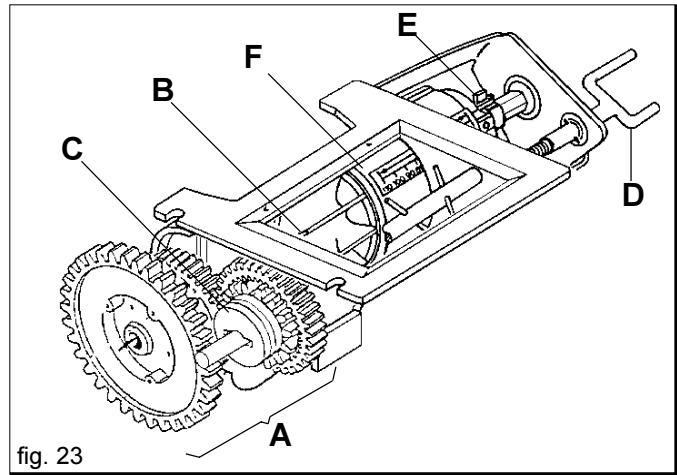
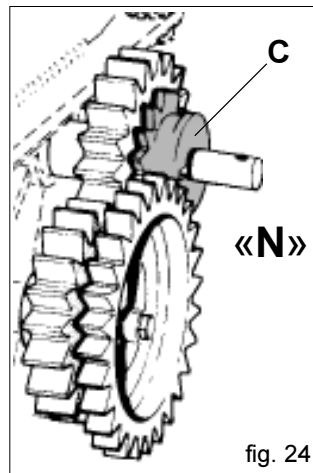
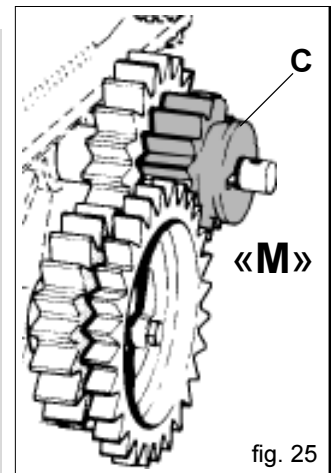
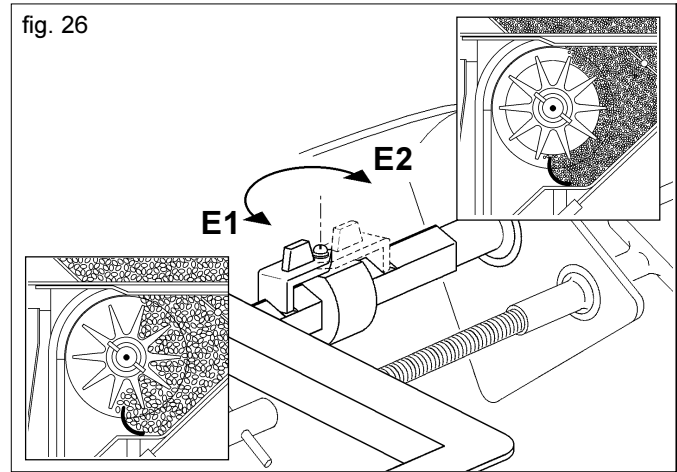

fig. 23
fig. 24
fig. 25
fig. 26
The doser (Fig.23) the most important part for seeder operation, is located underneath the seed hopper. Motive power is transmitted to it by the drive wheel through gears (with ratios proportional to the width of the work to be carried out) and chains. Thanks to a gearbox (A Fig. 23) it allows the distributor roller (B) to operate with two gear ratios, by changing the position of the red toothed wheel (C Fig. 24, 25). In position «N» (Fig. 24), the gear ratio is 1:1, as imposed by the pair of toothed wheels Z19; when the wheel (C) is shifted to the «M» (Fig. 25) position, the distributor wheel halves the number of revolutions, as the drive is then composed of the red drive wheel Z14 and the drawn wheel Z28. When a dosing test, as described in chapter 3.4.2, is performed, it may be observed that the quantity of product distributed is halved (see Table 4) compared to the test using ratio 1:1. The position «M» of the toothed wheel (C) is necessary for the distribution of small seeds and quantities.
The locking spring (E Fig. 23) enables the opening range of the gate to be modified which, in turn, modifies the capacity of the dosing roller at the same time. The position «E1» (Fig. 26) enables the gate to be opened on a graduated scale, ranging from 0 to 110, with maximum capacity of the dosing roller; in the «E2» position, on the other hand, there is a gate opening range of 0 to 25 and the capacity of the roller is reduced. It is important always to remember to close the gate completely (0 on the graduated scale) in order to invert the position of the locking spring (E).
The distributed seed quantity per hectare is adjusted by the seed distributor (Fig. 23) by moving the graduated slide valve accordingly (F) with the screw staff (D). The positions of the distributor scale correspond to the adjusting table values in the left column (Table 4).